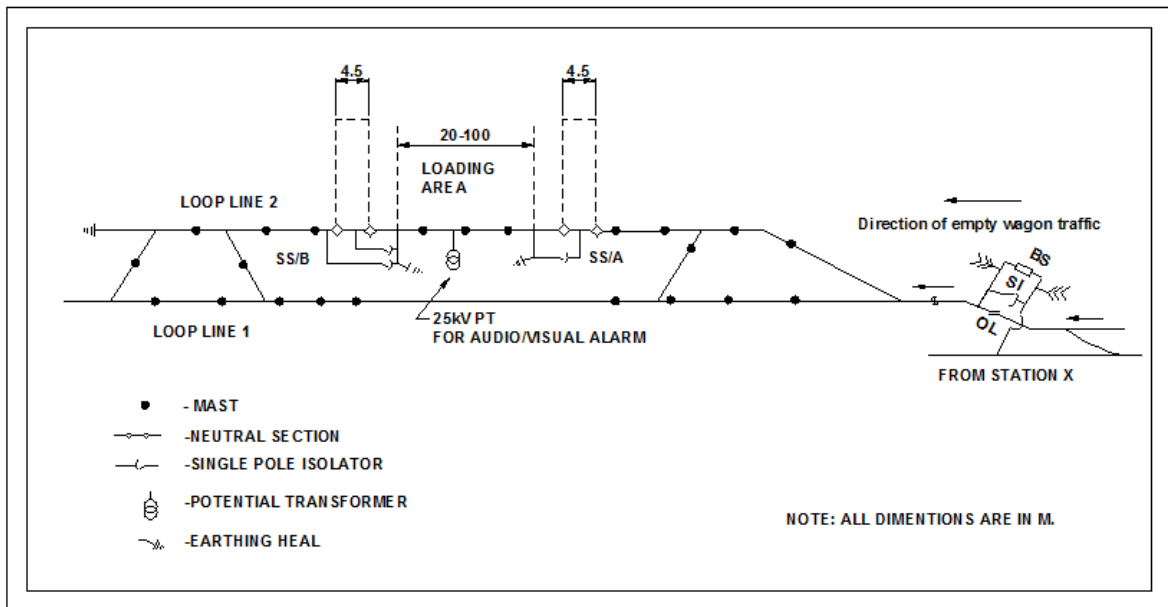

Fig1.0(Drawing No. TI/DRG/OHE/Push/00001/09/0)-Yard layout & location of electrical equipments in case of Scheme-I
4.2 **Layout of siding:** Tentative layout to be adopted for such a siding shall be as shown in the drawing given in Fig 1.0 with focus on the loading area arrangement.